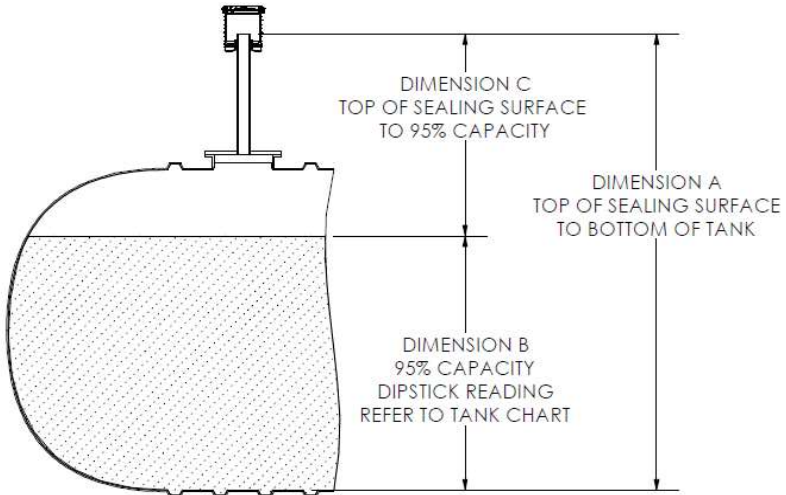

Figure 1
- Find measurement A, the distance from the top sealing surface to the bottom of the tank (see Figure 1).